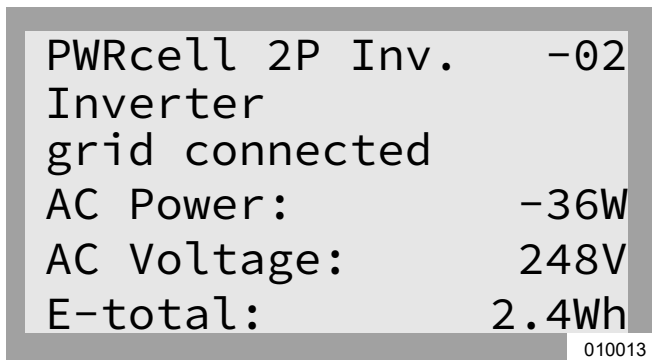

Figure 6-10. Inverter Enabled (4 of 4)
- See Figure 6-10. The inverter is enabled. It will create voltage at the DC terminals and begin communicating over REbus.